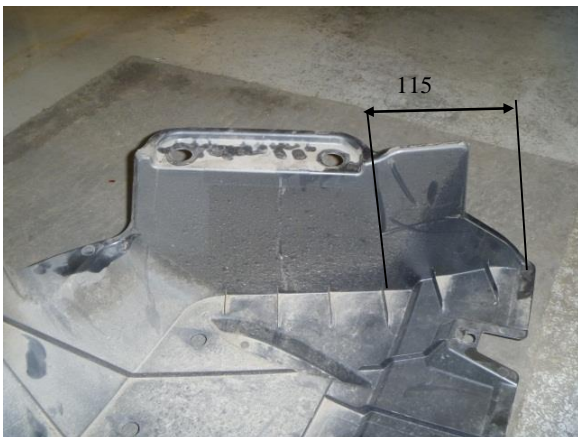

Figure 1
8. Cut the side of Plastic under body tray 115mm wide all the way down to ribbing to allow clearance to Towbar. (Figure 1).